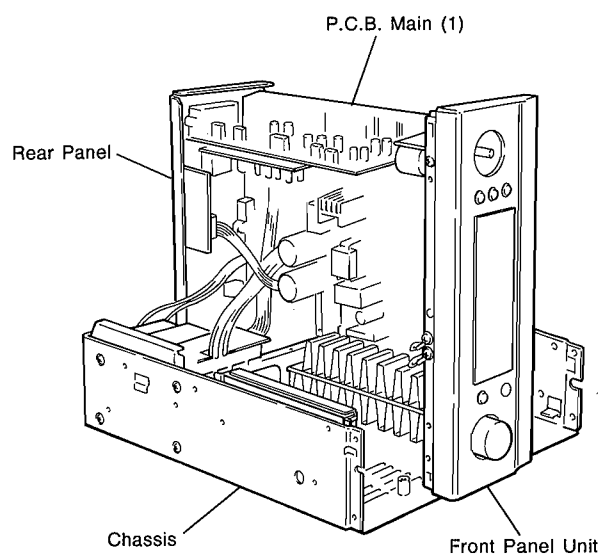

Fig. 4
- With the Main P.C.B. placed on its side as shown in Fig. 4, install the Front Panel unit.